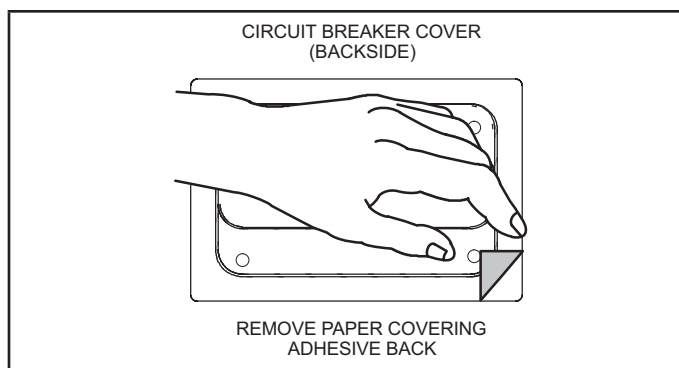

FIGURE 9. Remove Paper Cover
- 2 - Remove paper backing from the adhesive around the perimeter of the back side of the circuit breaker cover (figure 9).